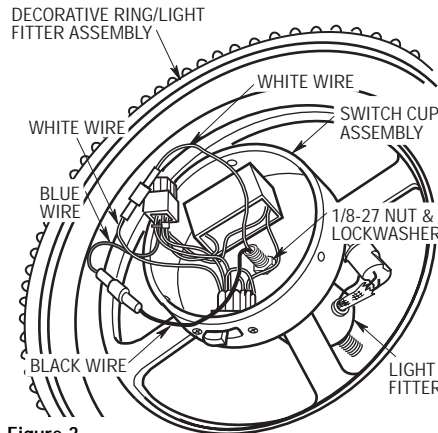

Figure 3
- 6. Remove the plastic plug from the center hole in the switch cup assembly. Pass the two light fitter wires through the center hole, then screw the switch cup assembly onto the light fitter threaded nipple (Figure 3). Install a lockwasher and 1/8-27 nut (supplied) on the threaded nipple to secure the switch cup assembly to the decorative ring/light fitter assembly
- 7. Connect the white wire from the light fitter to the white wire in the switch cup assembly (Figure 3). Connect the black wire from the light fitter to the blue wire in the switch cup.